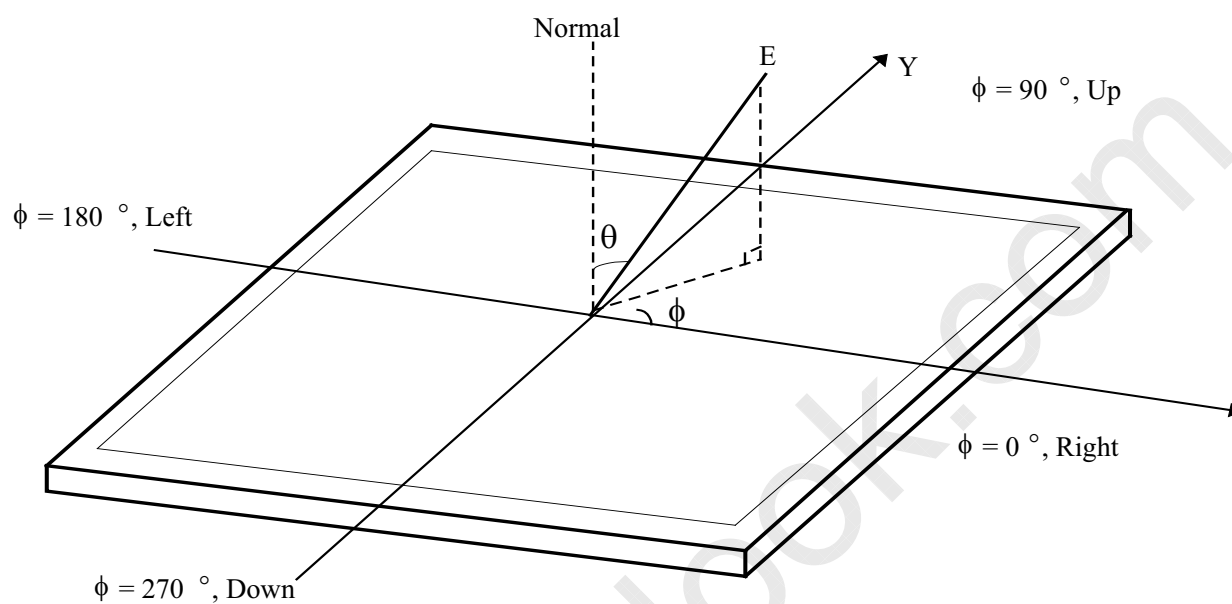

FIG. 4 Viewing angle
- Viewing angle is the angle at which the contrast ratio is greater than 10. The angles are determined for the horizontal or x axis and the vertical or y axis with respect to the z axis which is normal to the LCD surface. For more information, see FIG 4.